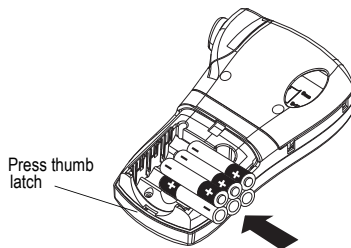

Figure 2
1. Press the thumb latch on the bottom of the printer to open the battery compartment door. See Figure 2.